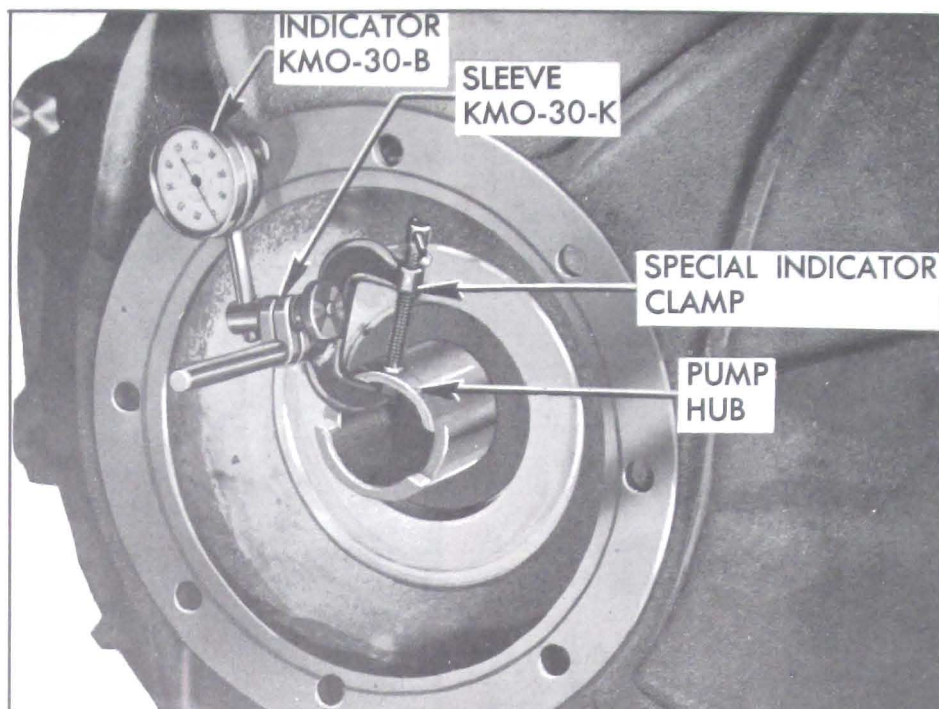

Figure 5-70—Checking Run-Out of Rear Face of Bell Housing
5. Attach the special dial indicator clamp to the oil pump driving lug on rear end of converter pump hub. **CAUTION:** Do not clamp to bearing surface on hub. Mount Dial Indicator KMO-30-B to bear against rear face of housing at a radius of 3 3/4\". See Figure 5-70.